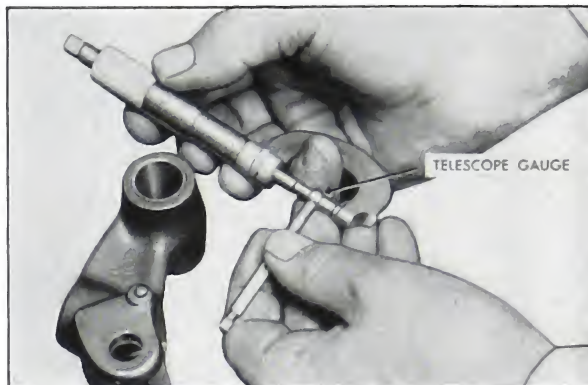

Fig. 4-2. Gauging cam follower bushing
3. Gauge the rocker lever bushings with telescoping inside gauge and micrometers. See Fig. 4-2. New or newly bored bushings should gauge 1.1245 to 1.1255. If they are worn beyond the limit of 1.1265 at any point, they should be marked for rebushing. ST-194 is plug gauge for checking new bushings, but it will not detect uneven wear.
4. Gauge cam follower lever bushings. (Fig. 4-2). New, or newly replaced and bored bushings, must gauge .7495 to .7505. If old bushings are worn larger than .7515, the levers must be re-